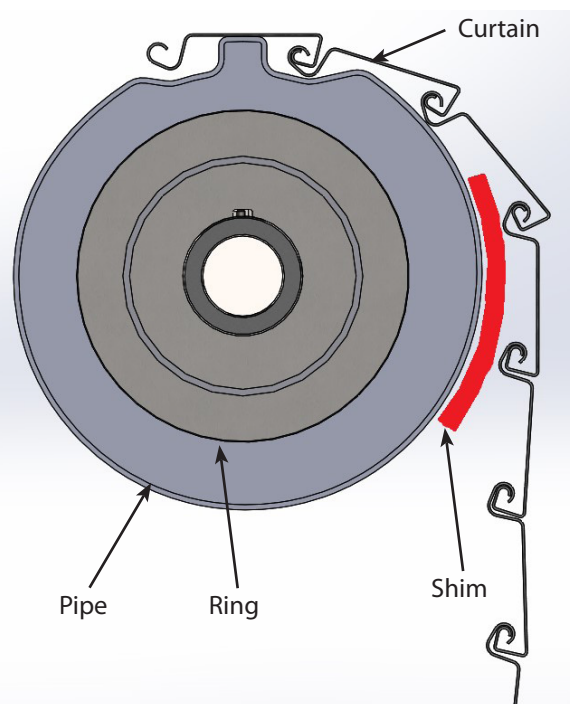

Figure 24
- Use a 1/8" x 6" x 6" thick piece of material and increase thickness or pieces depending on the result acquired, as shown in Figure 24.